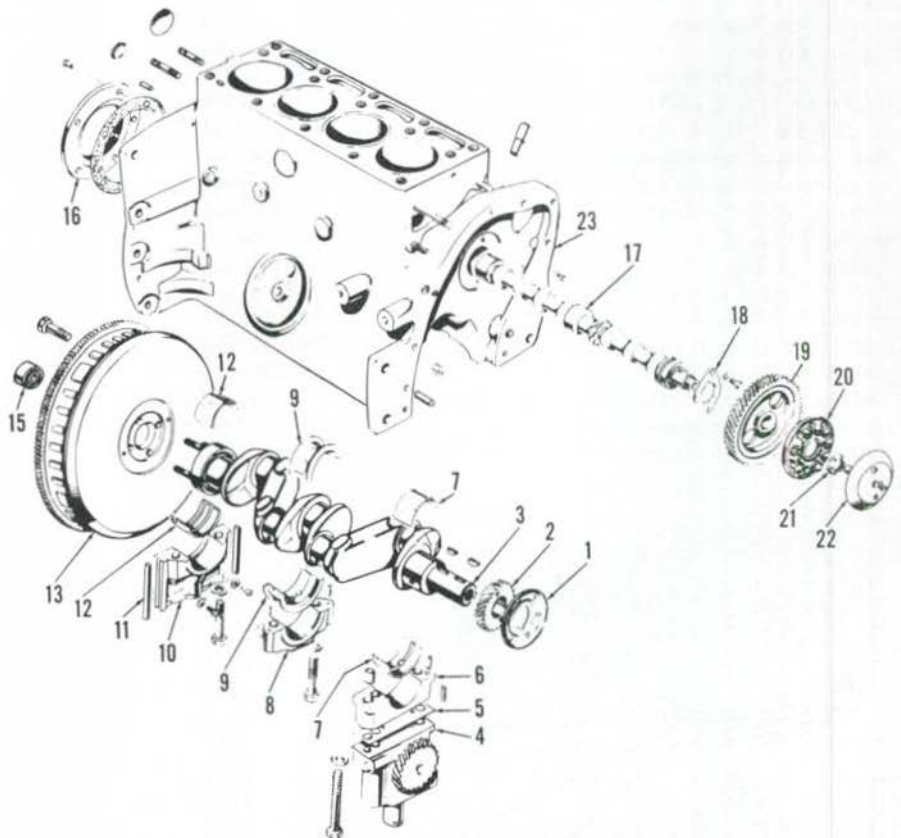

Fig. 38—Exploded view of cylinder block and associated parts.
screws securing camshaft thrust plate (18—Fig. 38) to engine block and withdraw camshaft from front of engine.
41. The crankshaft is supported in three precision insert type main bearings. The rear main bearing cap (10—Fig. 38) contains sealing strips (11) on each side of cap in addition to rear seal (16). Bearing inserts are available in undersizes of 0.05, 0.25 and 0.50 mm (0.002, 0.010 and 0.020 inch) as well as standard size. Normal crankshaft end play of 0.10-0.20 mm (0.004-0.008 inch) is controlled by the flanged center main bearing inserts (9).
42. The crankshaft rear oil seal (16—Fig. 38) is contained in a one-piece retainer and serviced only as an assembly. To renew the seal, first separate engine from transmission case as outlined in paragraph 112 and remove the flywheel. Remove the oil pan and the two cap screws securing rear seal retainer to main bearing cap; remove the three remaining cap screws and lift off the oil seal and retainer unit.